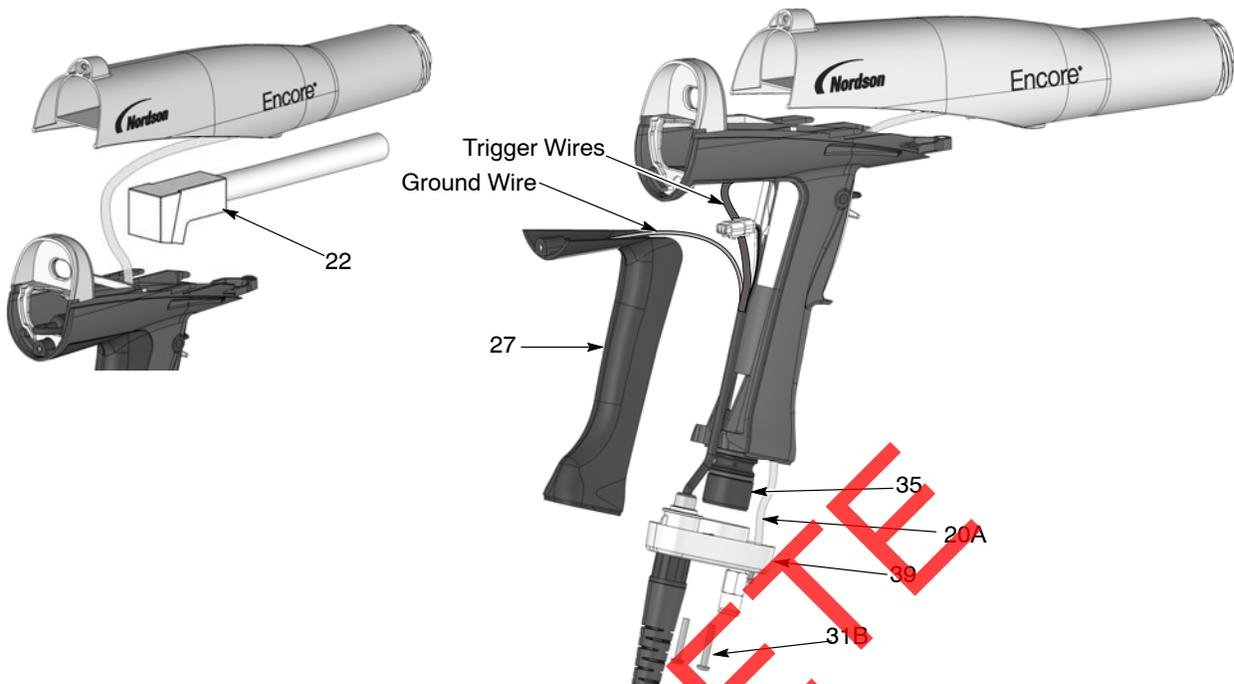

Figure 6-4 Removing the Powder Path from the Spray Gun
1. See Figure 6-4. Remove the outlet tube (22) from the inlet tube. The elbow portion of the outlet tube is held onto the inlet tube with a tight O-ring fit; wiggle the elbow back and forth to pull it free.
2. Remove the two M3 x 20 screws (31B) from the handle base (39).
3. Pull the base away from the handle, swing the bottom of the ground pad (27) up and away from the handle, then remove it. Leave the ground wire connected to the ground pad.
1. See Figure 6-4. Install the inlet tube (35) up into the handle.
2. Insert the end of the inlet tube into the handle base (39) and seat it.
3. Push the handle base close to the handle, then hook the top end of the ground pad (27) into the body and rotate it onto the handle. Make sure the cable wires are not pinched or trapped during re-assembly.
5. Press the outlet tube elbow (22) onto the end of the inlet tube, with the outlet end oriented toward the front of the gun as shown.